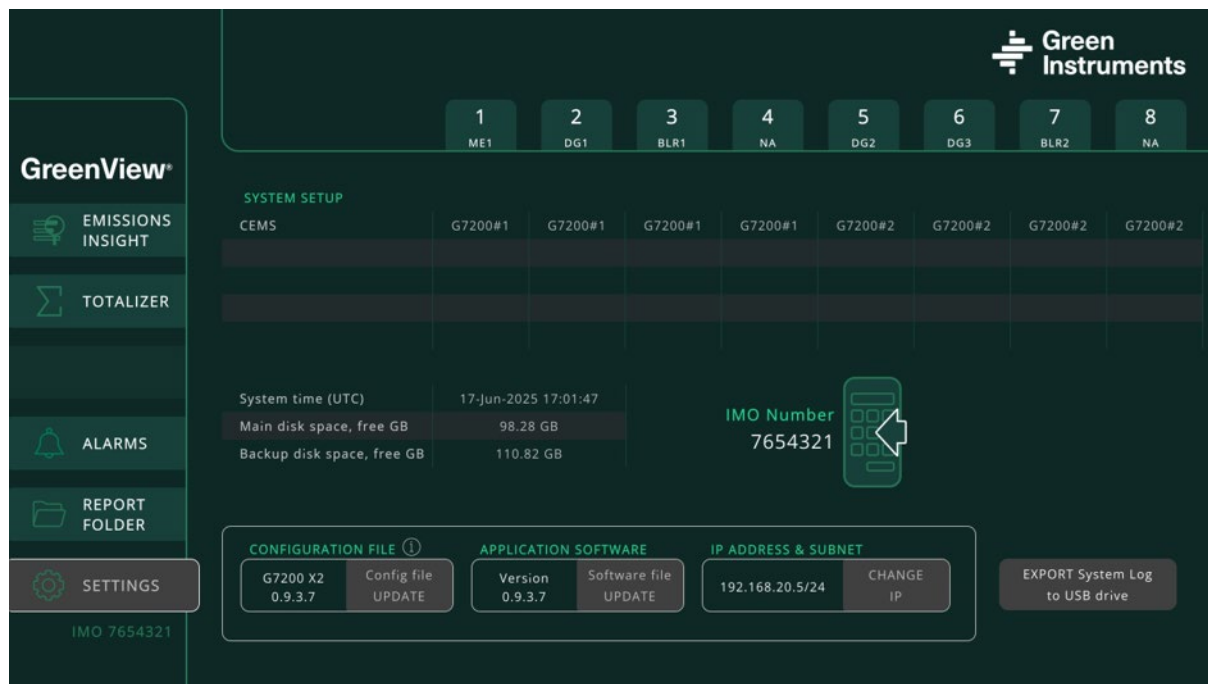

Figure 3-6, Settings menu
1. Configuration file: when there is an update, you will receive a file from Green Instruments via email, which must be copied into the formatted USB, at the root (not saved into a folder). Refer to Figure 3-6. Then, insert the USB with the updated configuration file in the GreenView Panel PC. This will prompt a loss of connection, which will resolve once the update is complete.